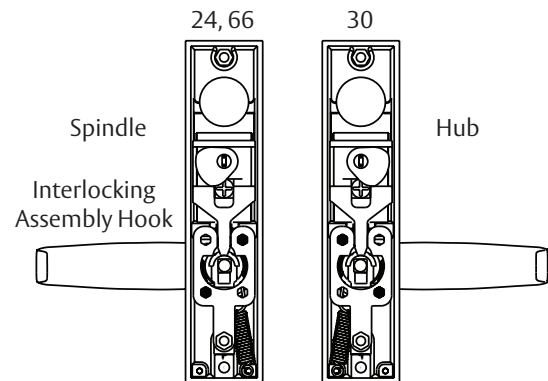
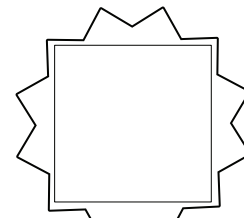

Figure 16
Figure 17
1. Unscrew the lower thru-bolt stud (11) with a 3/8" wrench.
2. Remove mounting plate (6) and mounting posts.
3. Switch mounting posts (7) so they occupy the opposite positions on the mounting plate (6).
4. Note the original position of the extension spring (16) and lower plate (9) in the escutcheon (14). Unhook the extension spring from pin (13).
5. Remove spring (16), lower plate (9) and locking hub (8) assembly together.
6. Detach extension spring (16) from lower plate (9) and locking hub assembly (8).
9. Unscrew cap screw w/spacer (12) using a 5/32" Allen wrench.
11. Rotate lever to position shown in Figure 16 for desired hand.
12. Tighten retaining nut (10) firmly by hand and then back off one notch until pattern shown in Figure 17 appears.
13. Attach bottom of spring (16) (closed loop) to pin (13). Hold lever horizontal while inserting locking hub assembly (8) and lower plate (9) into retaining nut (10) escutcheon with lower thru-bolt stud (11).
14. Refer to Figure 16: Position hub (4) for required function and hand, and ensure that spindle (5) is vertical. Note position of interlocking assembly hook when positioning hub.